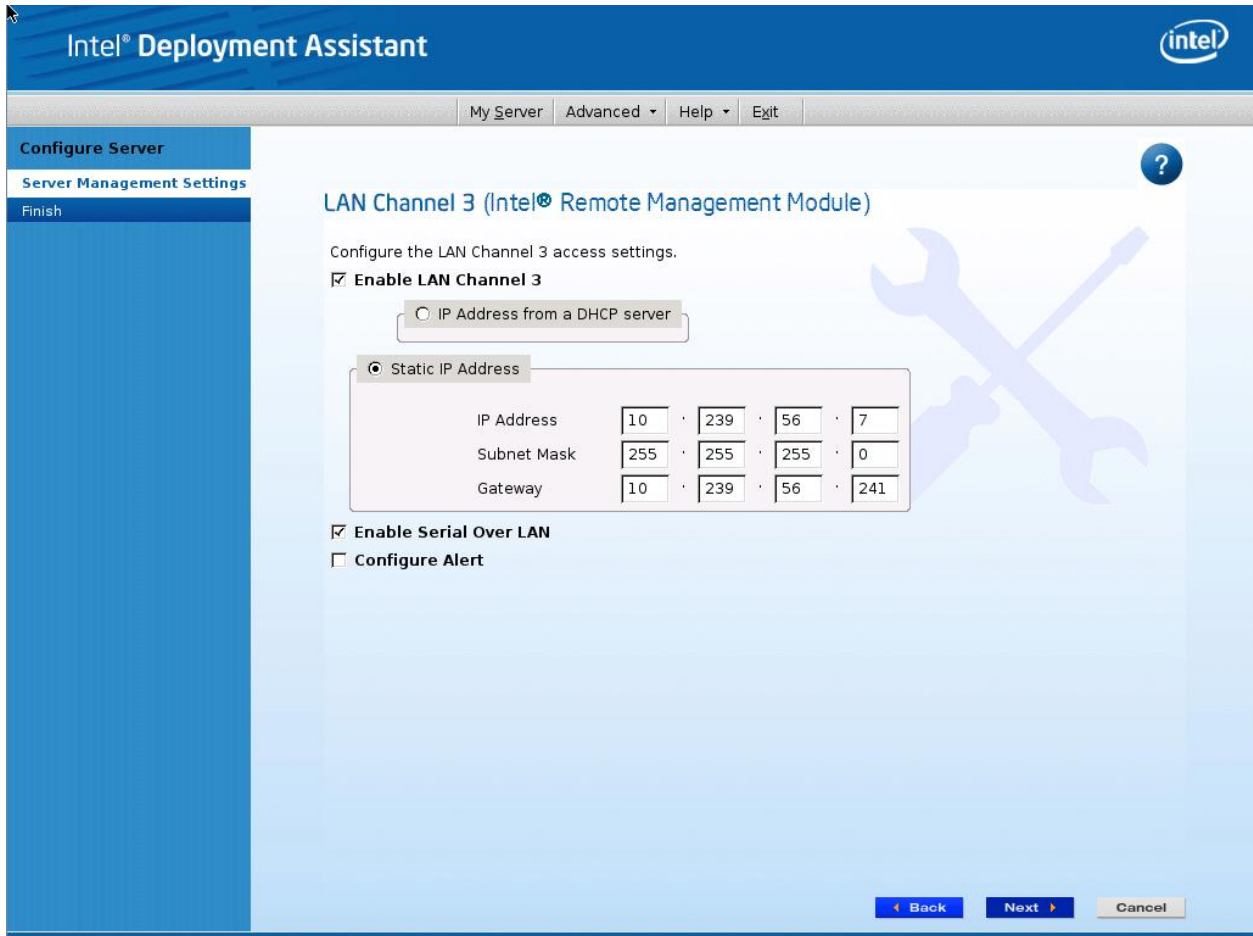

Figure 27: IDA Configure Server: Configure LAN Channel 3 (Intel® RMM4 DMN) Static IP Address window
- b. If **Static IP Address** is selected, configure the **IP address**, **Subnet Mask**, and **Gateway** as shown in Figure 27.